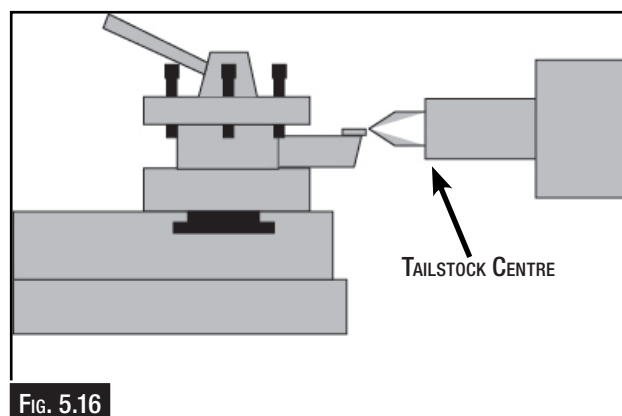

FIG. 5.16
2. Align the tip of the cutting tool with a tailstock center, as described in the following procedure. (Fig. 5.16)
- d. Adjust the height of the cutting tool tip to meet the center tip, as shown. (Fig. 5.16)